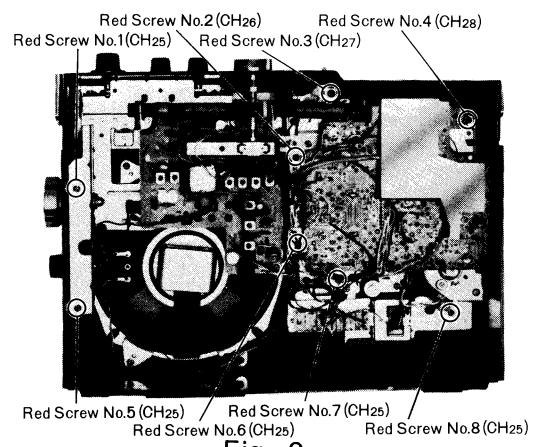

Fig. 2
6. Remove eight (8) red chassis screws, nos. 1~8, as illustrated in fig.2.